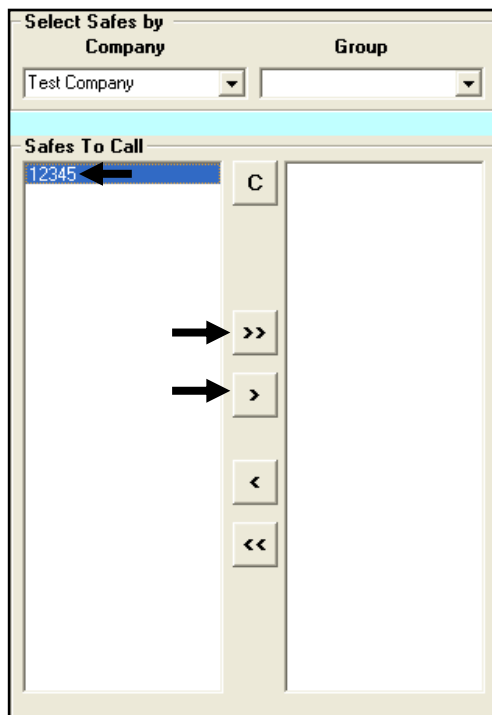
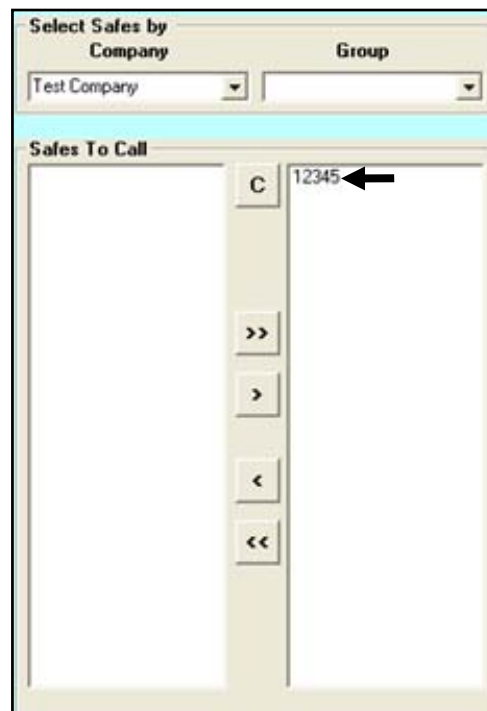

Fig. 8.4
Fig. 8.5
- 2) Select the company, group, or both until the safe(s) you wish to retrieve the information from appear in the left side of the Safes To Call field (Fig. 8.4). Selecting the “>>” button will select all safes, while selecting the “>” button will select each safe individually. After you have selected the safes to call, they will move from the left portion of the field to the right portion (Fig. 8.5).